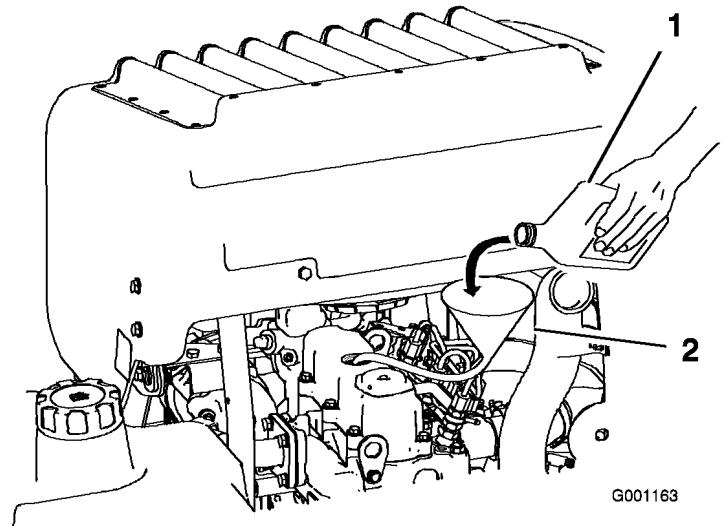

Figure 40
3. To add oil to the engine, locate and use a hose and funnel for adding oil (Figure 40).